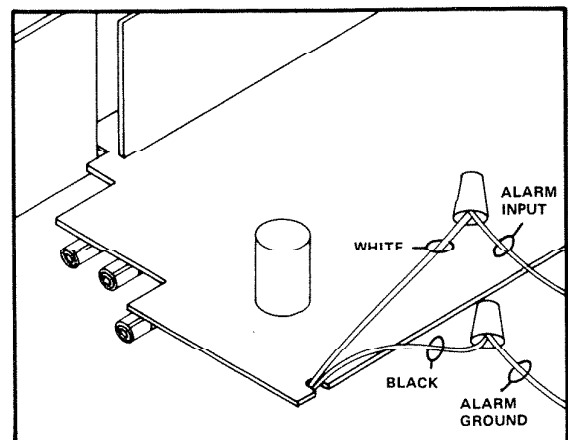

FIGURE 7
3. For optional hook-up to a NuTone Security System, connect NuTone IW-2 cable from Model SA-2335 Alarm Horn to the black and white wires shown in Figure 7.